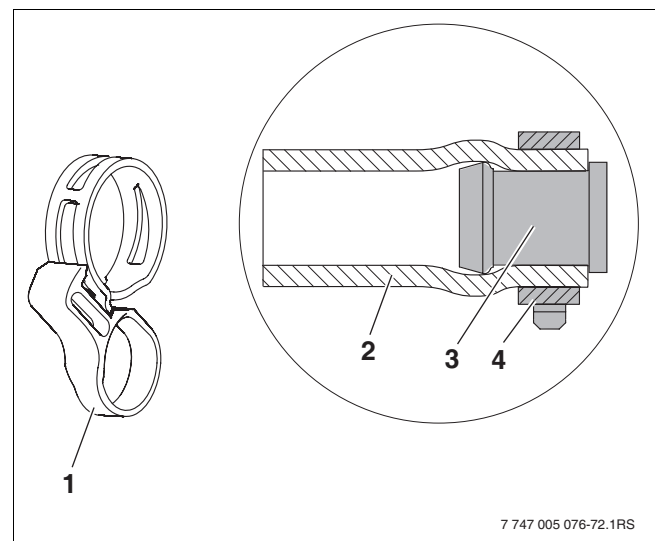

Fig. 36 Hose clip with locking ring and pre-assembled dummy plug
- ▶ It is very important to ensure the hose clip (Fig. 36, [4]) is positioned correctly before removing the locking ring (Fig. 36, [1]). Subsequent loosening using pliers can impair resilience.
- It is very important to ensure the hose clip (Fig. 36, [4]) is positioned correctly before removing the locking ring (Fig. 36, [1]). Subsequent loosening using pliers can impair resilience.
- Push dummy plug (→ Fig. 36, [3]) as far as it will go onto 55 mm solar hose [2].
- Bring hose clip (→ Fig. 36, [4]) into position and pull locking ring [1] to secure the plug.